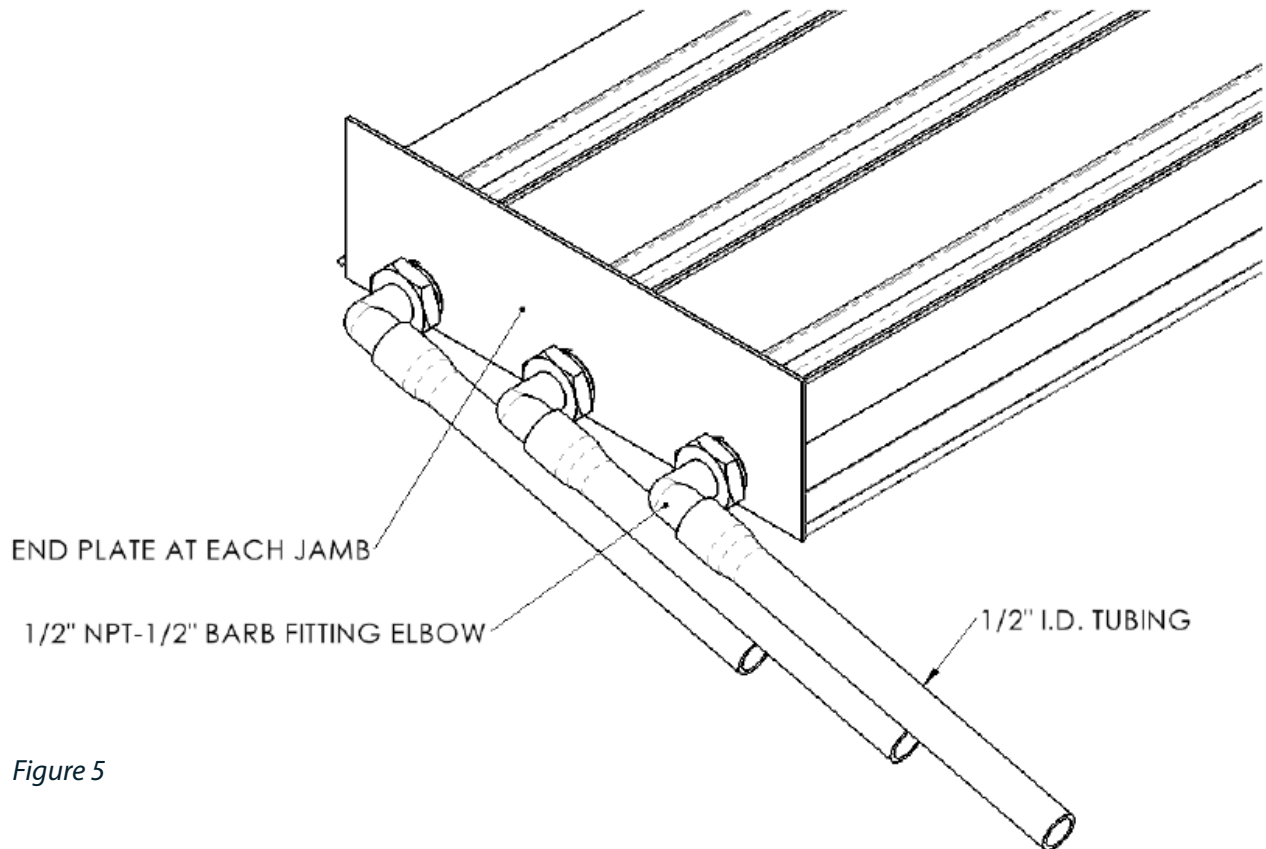

Figure 5
- Side Drain Fitting Sill (See **Figure 5**)
Screw the ½" NPT pipe to ½" hose barb fittings using tread sealant or Teflon tape to the ends of each track. Push fully the ½" minimum inside diameter hoses onto the barbed fittings and route to an appropriate drainage location, ensuring that the hoses have a continuous downward slope of at least ¼" per foot. See Figure 5. Skip to step 10.